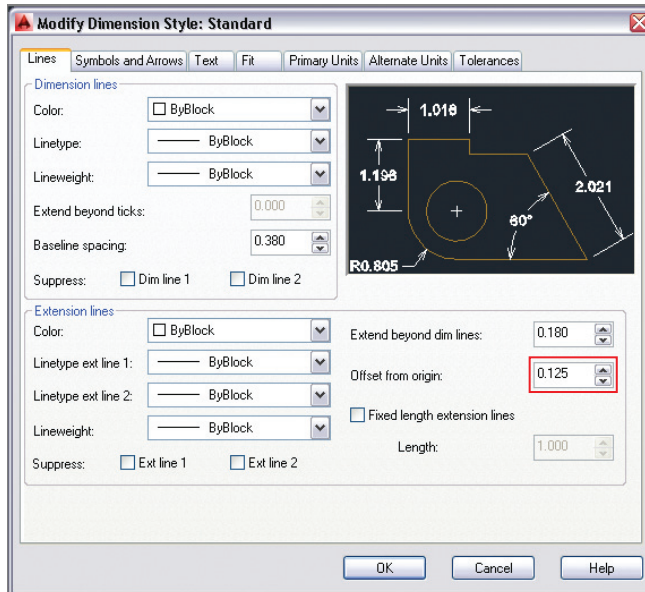

FIGURE 11.6 Increasing the offset from origin distance
6. Select the Lines tab. Double-click the Offset From Origin value to select it, type **0.125**, and press Tab (see Figure 11.6). Observe in the preview image how the distance between the object and its extension lines increases. Click OK and Close to save the modifications you've made to the Standard style.